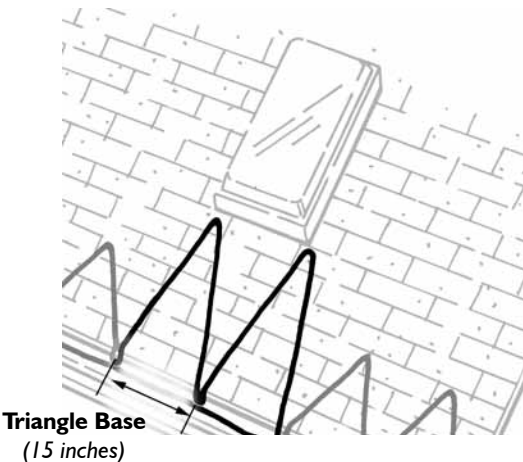

Figure 5. Triangle pattern near skylight
• **Pattern for skylights:** Problem skylight areas are also treated with the "triangle pattern" approach. However, the height of the triangles may need to be greater than those along the roofline. Increase the triangle height so that it extends to one shingle row (5 1/2 inches) below the skylight. The triangle base is maintained at 15 inches (See Figure 5).